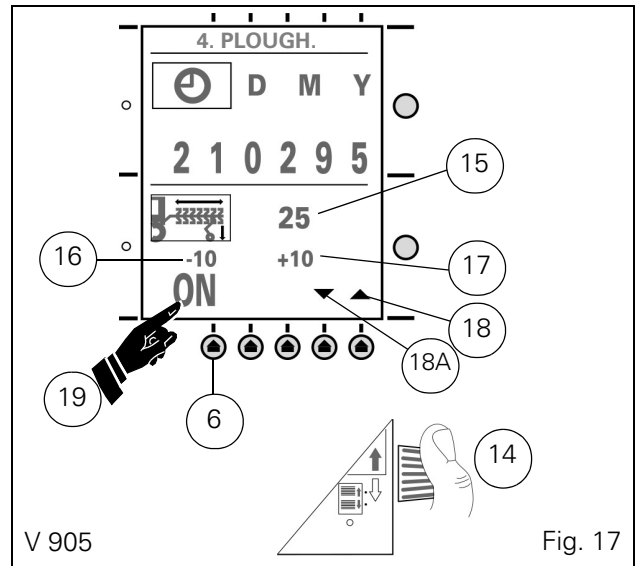
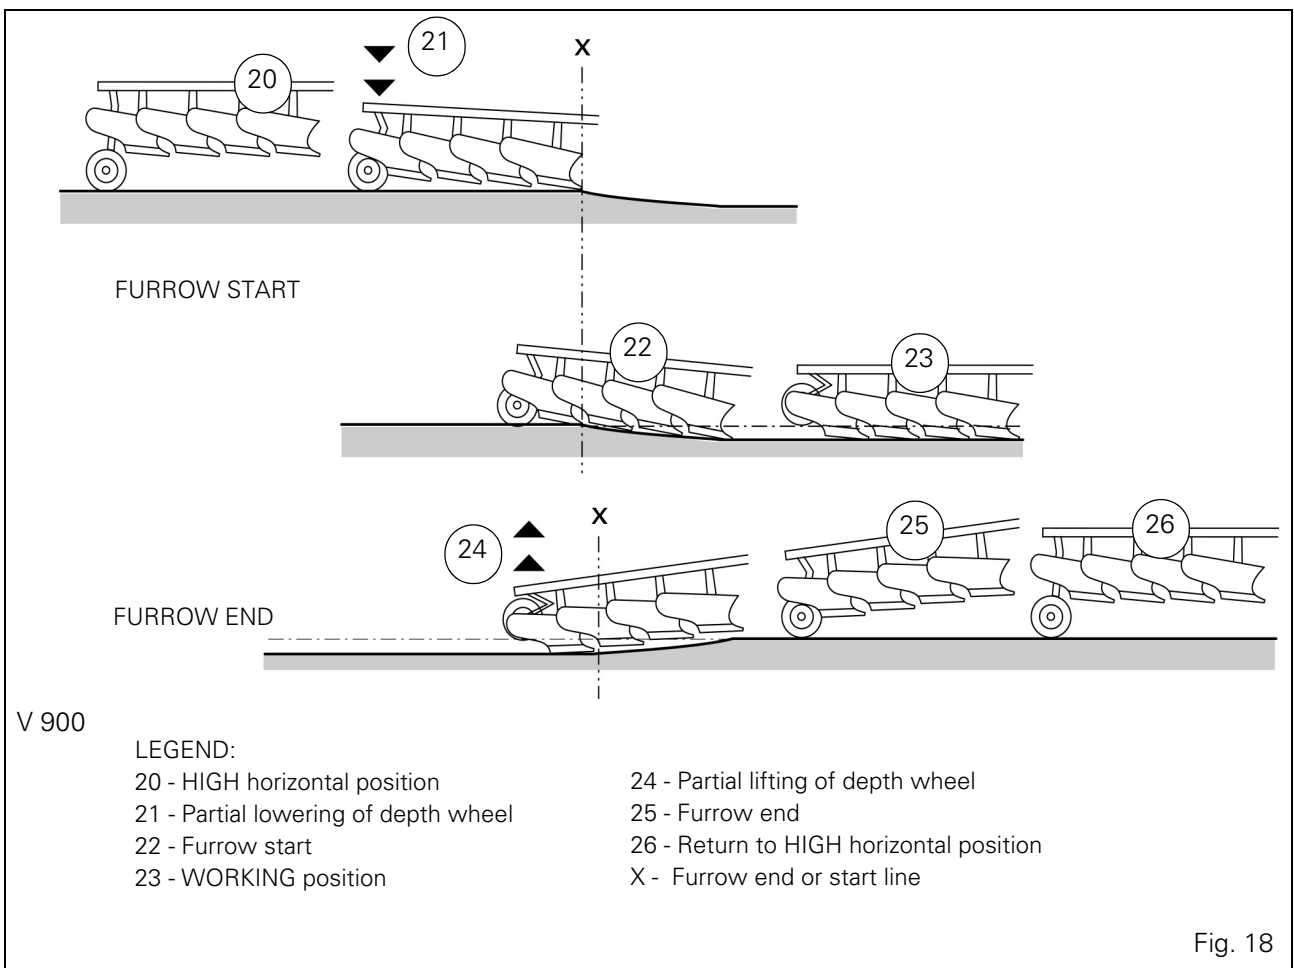
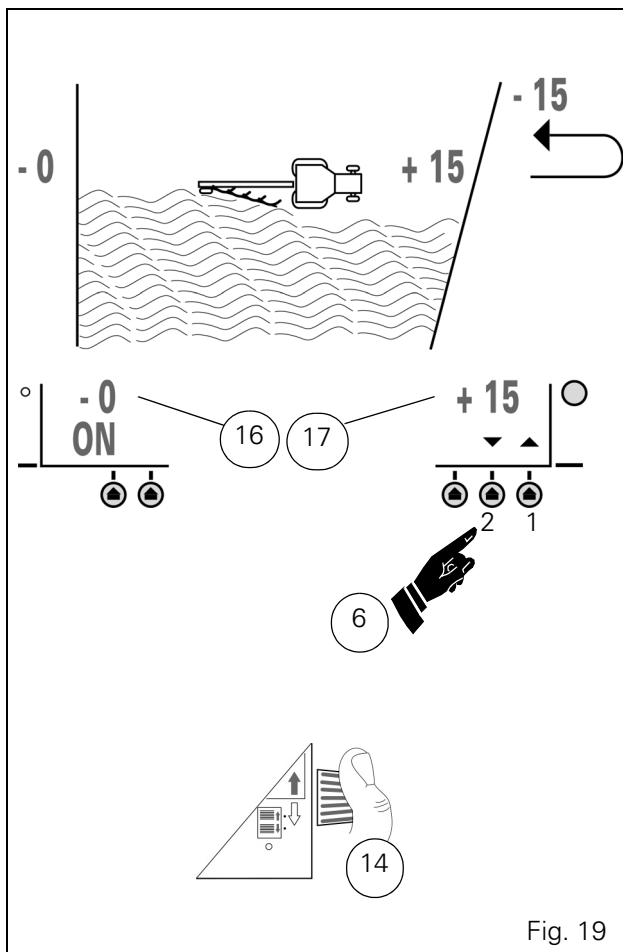

Fig. 17
Fig. 18
Fig. 19
(Fig. 17, Fig. 18)
Press key 6 (Fig. 17) (ON) to enable the DUAL function.
(Fig. 18, Fig. 19)
Windows 16 and 17 (Fig. 19) indicate the plough length correction applicable to the next furrow starts or ends.
Setting obtained from the plough length values which provide best penetration into the earth of first and last share on a same furrow start line (X. Fig. 18).